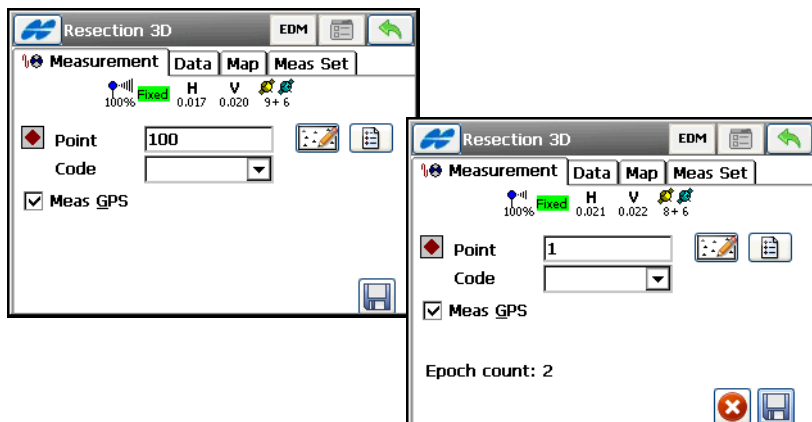

Figure 8-45. Measure GPS
3. Take GPS measurement of the points with GPS antenna attached to the prism rod (see Figure 8-45 on page 8-46).